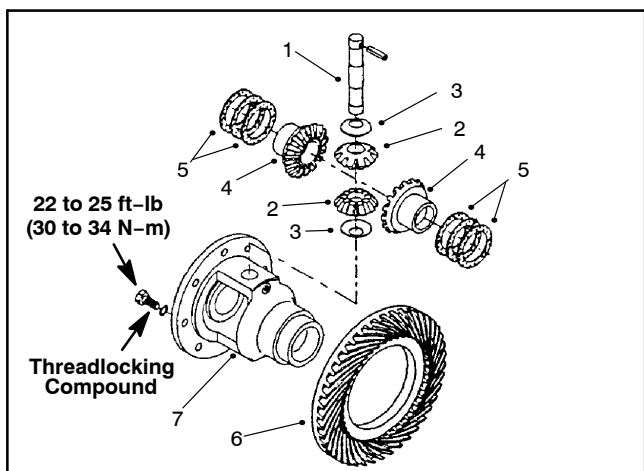

Figure 34
7. Remove the differential pinion shaft, pinion gears and pinion washers. Remove the differential side gears and side gear shims. Remove the ring gear only if it will be replaced (Fig. 34).